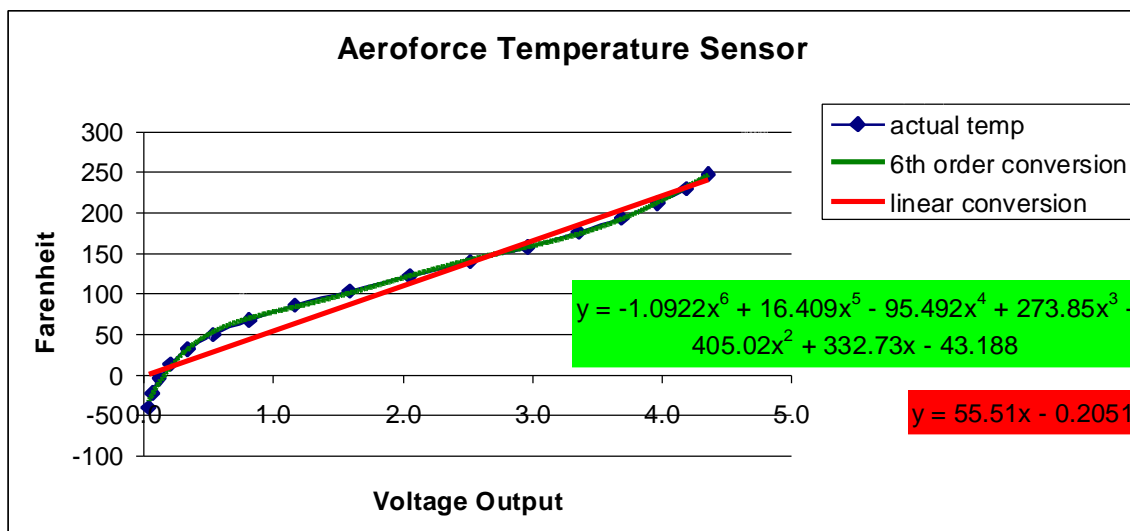

Fig. 1
3. The important step is to select either "Fluid Temp" or "Air Temp" on the description screen. Once you choose either of these, the correct 6th order conversion will be automatically entered so that temperature (in deg F) will be displayed when this input is selected in scan mode. The accuracy will be as shown below in fig. 1 using the 6th order fit.